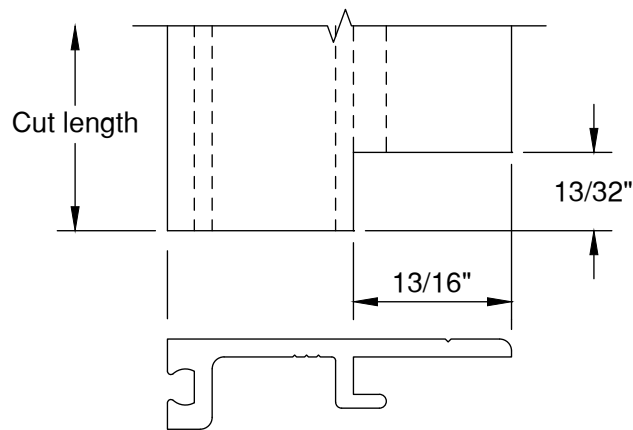

FIGURE 19
- A.1 Notch vertical adaptors at captured mullions according to **FIGURE 19**. Horizontal adaptors are straight cut. Install vertical adaptors first, leaving an equal overlap into each pocket. Refer to **VERTICAL SPLICING, page 25 & 26** if vertical mullion is spliced within a spandrel lite. Transition adaptors must be installed after mullion splice is sealed.